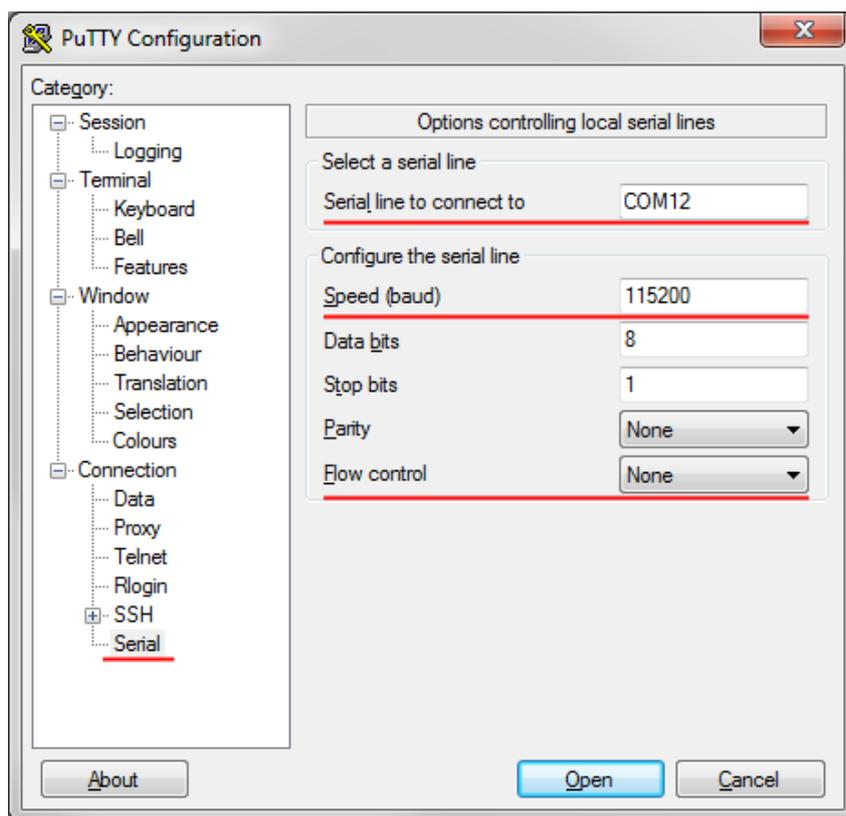

Figure 4-2 PuTTY interface
- 1) Open PuTTY and go to the “Serial” category. Specify the COM port number you will be using, change “Speed (baud)” to “115200” and “Flow control” to “None”, see *Figure 4-2 PuTTY interface*: